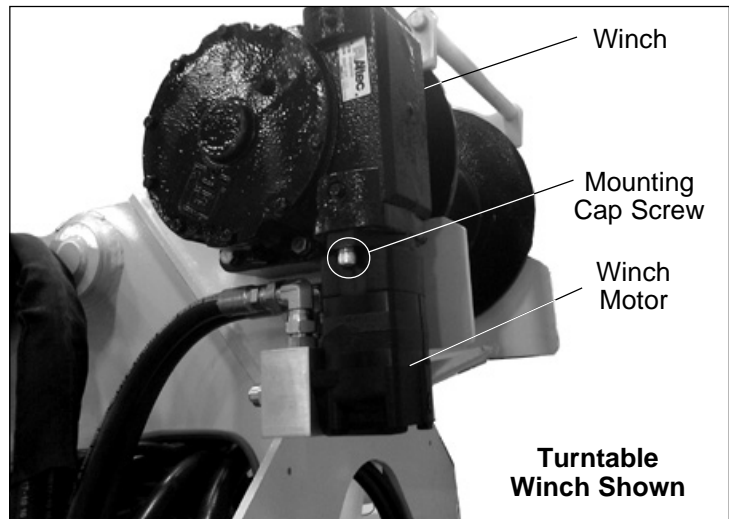

Figure 1 — Winch Motor Mounting Cap Screw
3. Remove one of the winch motor mounting cap screws (refer to Figure 1).